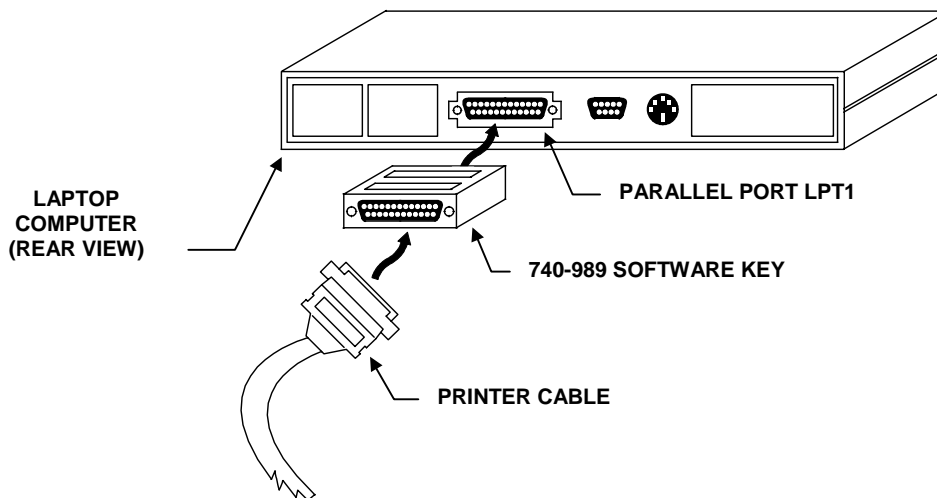

Figure 2-1. Software Key Installation
2. Remove your printer cable from your parallel port (if installed). Connect the software key to your parallel port and reconnect your printer cable to the software key. (See Figure 2-1.)